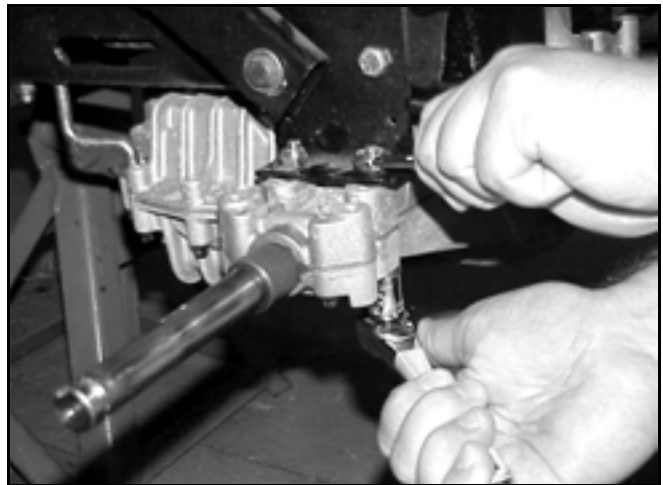

Figure 83
13. Support the transaxle with a jack. Remove the 4 bolts, washers, and nuts holding the transaxle to the frame (Figure 83).